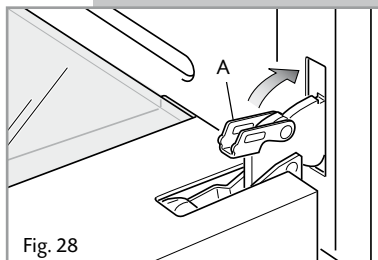

Fig. 28
- Unlock the oven door by opening it completely and closing the lever **A** on the left and right hinges (Fig. 28).